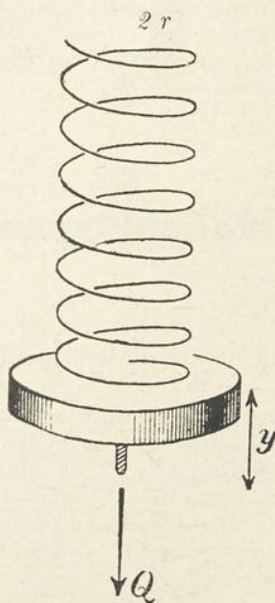

Fig. 2
1.) *Torsional and Bending Moments of the Spiral Spring.*—If the free end of the spring is pulled downwards by a force Q acting along the central line of the spring (see Fig. 2), r being the radius of the spring, viz., the distance of the central line from the wire, then we have for any cross section of the spring a moment Qr , the axis of which is the center line of the wire, provided we neglect the small angle a of